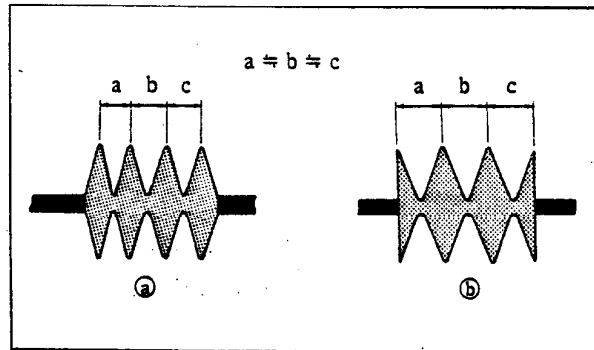

Fig. 62
- 1) Play back the tracking alignment tape and select the **REV** mode. At this time, waveform peak pitches must be uniform. (Fig. 62 ㉓) When they not uniform, make tracking adjustment in 4-2 and No. 11 guide (TG-11) adjustment in 4-4.
- 2) Select the **CUE** mode. At this time waveform peak pitches must be uniform. (Fig. 62 ㉔) When not uniform, make tracking adjustment in 4-2.